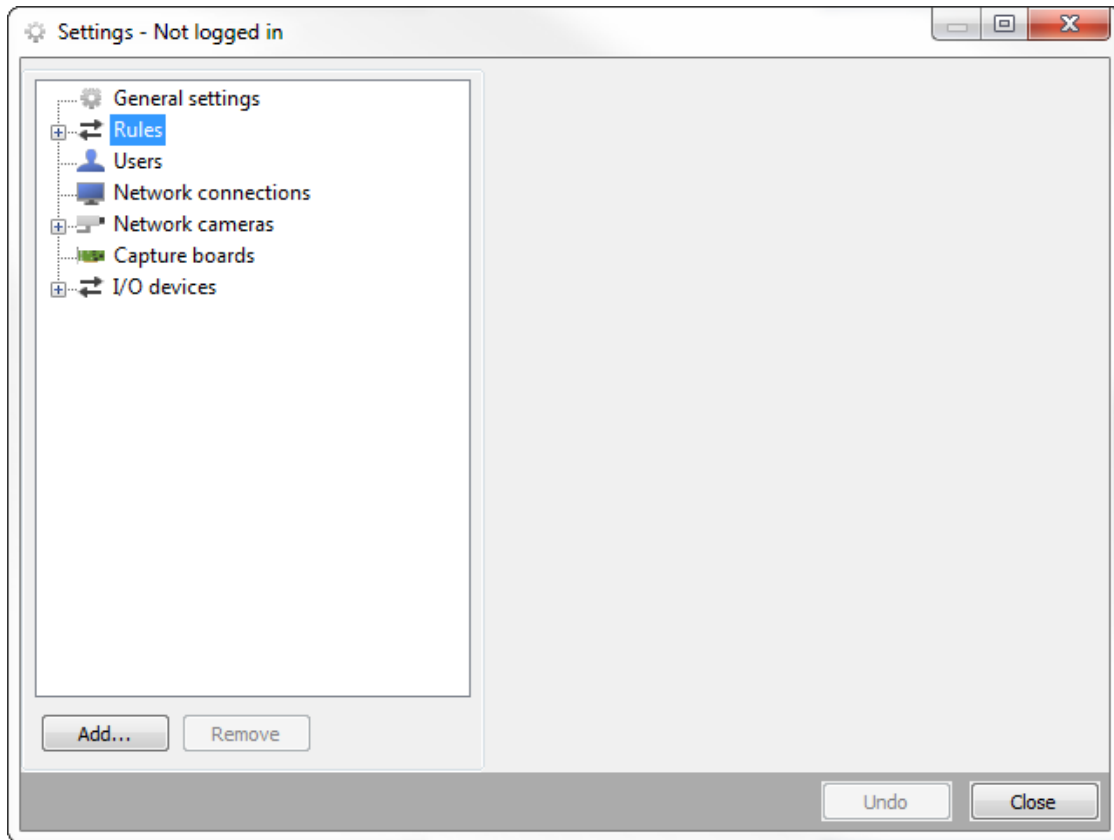

Figure 5.18: Rules.
- Click “Rules” and click “Add...” button three times (Figure 5.18).